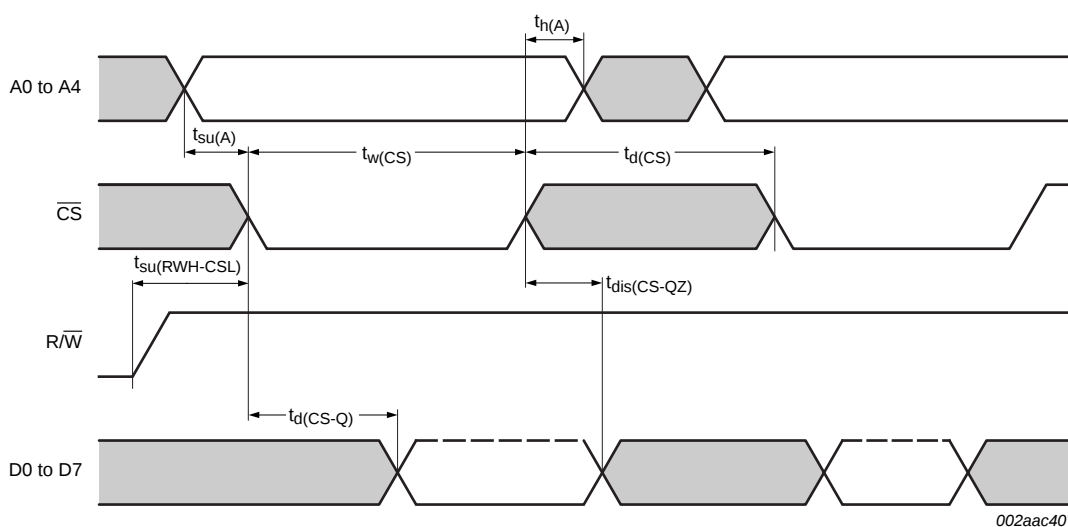

Fig 13. General read timing (68 mode)
(2) $\overline{CS}$ timing during a read cycle. See Figure 13.